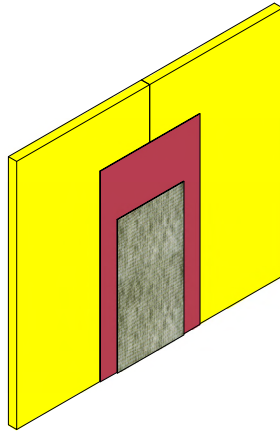

Figure 19
2. Remove the backing from the WS Flash. Using a roller firmly press the WS Flash over the joint ensuring it is well and evenly adhered. The joint is now ready to receive the final coat of Senershield-R/-RS/-VB. (See Figure 19)